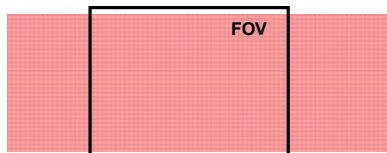

Figure 6 – Aiming Function Using The Blue Ring or Internal Lighting System \*
3. Release the button to enter the Aim function. The aiming system turns on see Figure 6.